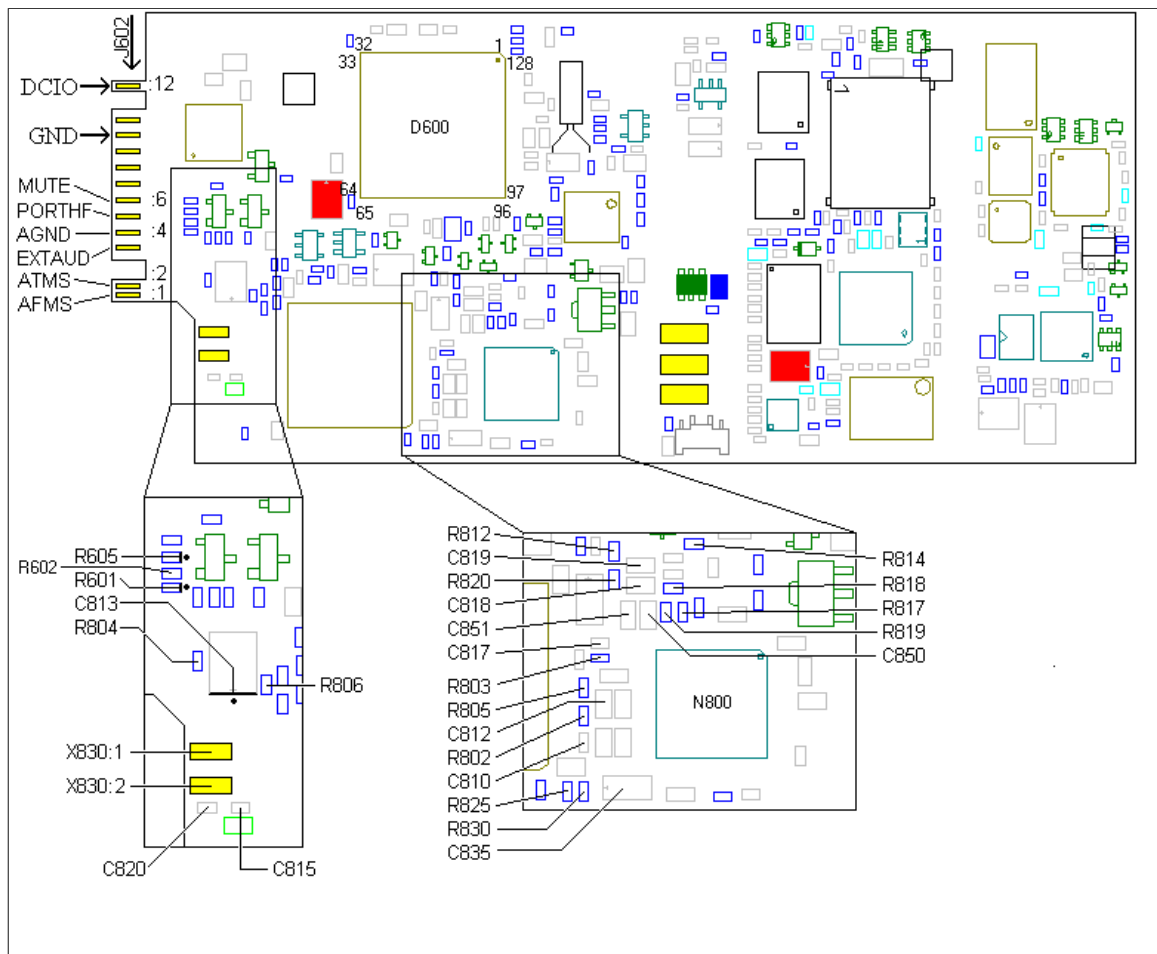
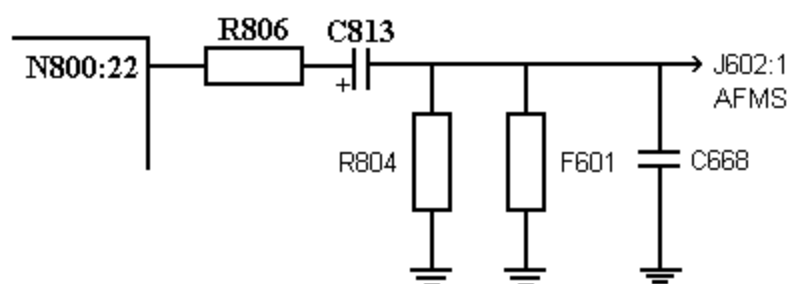
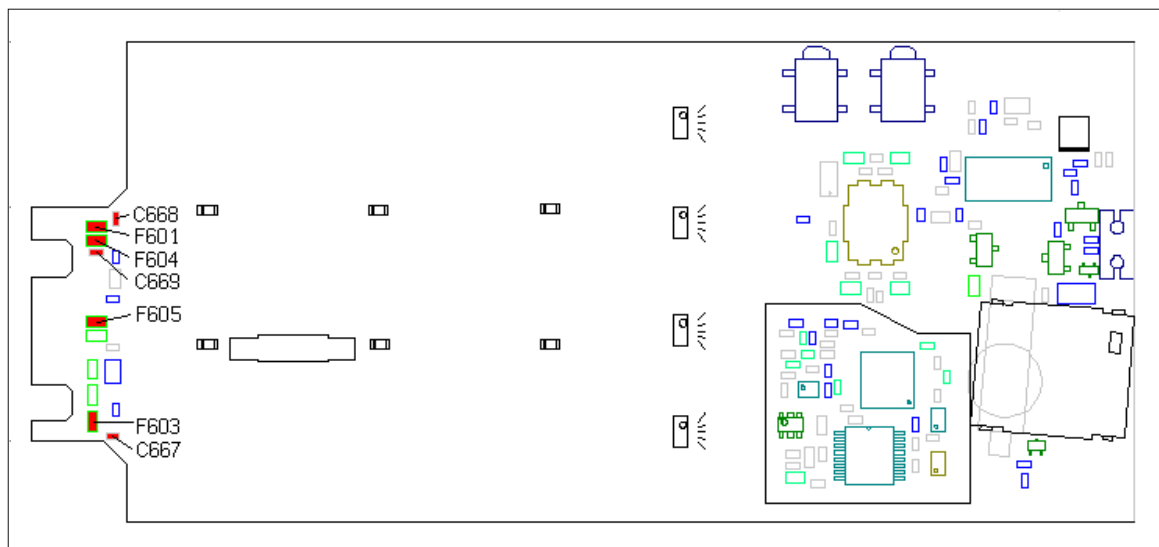

Fig. 4.2
Fig. 4.6
Fig. 4.7
Check the solderings of N800 (fig. 4.2)
Make sure C815 and C820 (both of class A, fig. 4.2) are mounted at the circuit board. They easily fall off when removing the system connector.
Measure the resistance of C850 and C851 (fig. 4.2, both of class A and >100 kohms).
Measure the resistance of R817, R814 (both of class A and ~1 kohms, fig. 4.2) and R818 (19 kohms, class A, fig. 4.2).
Check the solderings at pins 13-17 of N800 (fig. 4.2).
If the fault really is electrical and the above mentioned components aren't faulty, replace C818 and C819 (class A, fig. 4.2).
Measure the resistance from one of the X830 pads to the other (~28 kohms, fig.4.2).
- If the resistance is incorrect, replace C815 (class A, fig. 4.2).
Measure the resistance from pad 1 of X830 to ground (fig. 4.2, ~27 kohms).
- If the resistance is incorrect, measure the resistances of R812 and R814 (~470 ohms, class A, fig. 4.2).
- * If the resistance is correct, measure the resistance from pad 1 of X830 to pin 13 of N800 (<1 kohms, fig. 4.2).
Measure the resistance from pad 2 of X830 to ground (fig. 4.2, ~470 ohms).
- If the resistance is too low, replace C820 (class A, fig. 4.2).
- If the resistance is too high, replace R820 (~470 ohms, class A, fig. 4.2).
Measure the voltage at both sides of R601 and at pin 70 of D600 (~3.1V, fig. 4.2, you follow the **PHFI** signal).
Measure the voltage at both sides of R605 and at pin 67 of D600 (~3.1V, fig. 4.2, you follow the **EXTAUDI** signal).
- If the voltage at R601 or R605 (both of class A) is too low only at one side (the marked side), remove the resistor and measure the resistance from the marked side to ground (fig. 4.2, >2 Mohms).
- * If the resistance is too low there's a short circuit in either the circuit board or in D600. Replace D600 (class B, fig. 4.2).
- If the voltage is too low at both sides of R601 or R605, measure the resistances of R635 and R636 (~22 kohms, class A, fig. 4.2).
- If the voltage is correct, check the solderings at N800 and D600 (fig. 4.2).
- If the resistance is too low (short circuit at ATMS), replace F604 and C669 (both of class A, fig. 4.7).
Measure the resistance of C850 and C851 (both are >100 kohms, in fig. 4.2 and of class 2).
Make sure R830, C835, R825, C810, R802, R805 C812 and R803 (class A, fig. 4.2) are mounted at the circuit board.
Check the solderings of N800 (fig. 4.2).
- If the voltage is incorrect, measure the VDIG voltage at the marked side of R830 (fig. 4.2, ~ 3.2 V).
- * If the voltage is correct, check the resistances of R830 (~ 470 ohms, class A), R825 (~ 3.3 kohms, class A), C835 (>1 kohms, class A) and C810 (>5 kohms, class A, all four in fig. 4.2).
The fault occurs when there’s an interrupt in the audio path from the N800 to the handsfree speaker (connected through the system connector). The audio path is shown in fig. 4.6.
- If the resistance is less than 10 kohms, replace F601 and C668 (both of class A, fig. 4.7).
Measure the resistances of C850 and C851 (both are >100 kohms, in fig. 4.2 and of class A).
Make sure all the components in fig. 4.6 (R806, R804 and C813 in fig. 4.2 and F601 and C668 in fig. 4.7, all of class A) are mounted at the circuit board.